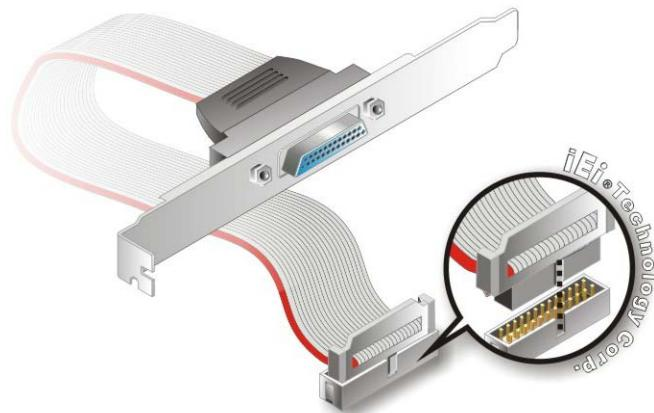

Figure 5-20: LPT Cable Connection
Step 2: Align the connectors. Correctly align pin 1 on the cable connector with pin 1 on the NOVA-9452 LPT box-header connector. See **Figure 5-20**.
Step 3: Insert the cable connectors Once the cable connector is properly aligned with the 26-pin box-header connector on the NOVA-9452, connect the cable connector to the onboard connector. See **Figure 5-20**.